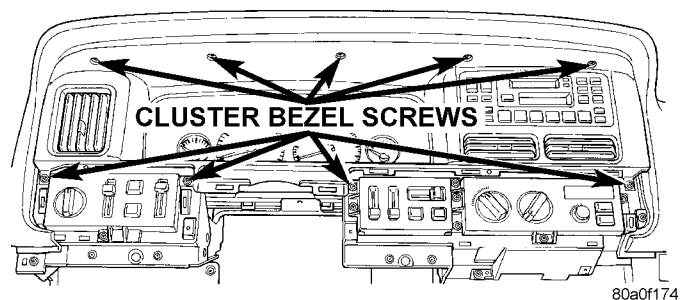

Fig. 5 Cluster Bezel Screws Remove/Install
(1) Disconnect and isolate the battery negative cable.
(2) Remove both switch pod bezels from the instrument panel. See Switch Pod Bezel in this group for the procedures.
(3) Remove the ten screws that secure the cluster bezel to the instrument panel (Fig. 5).